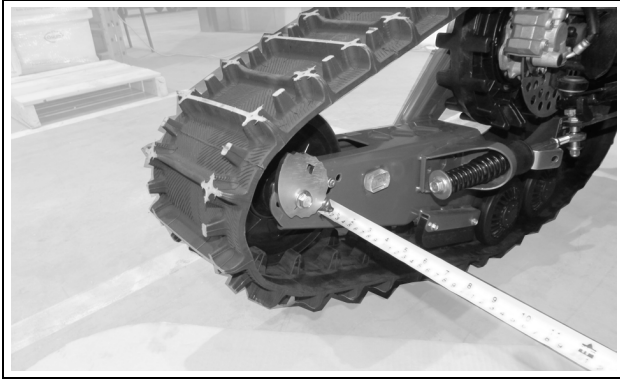

Figure 18
**Measure A:** Measure the distance inside the front ends of the front Track System frames. See Figures 18, 19 and 20.